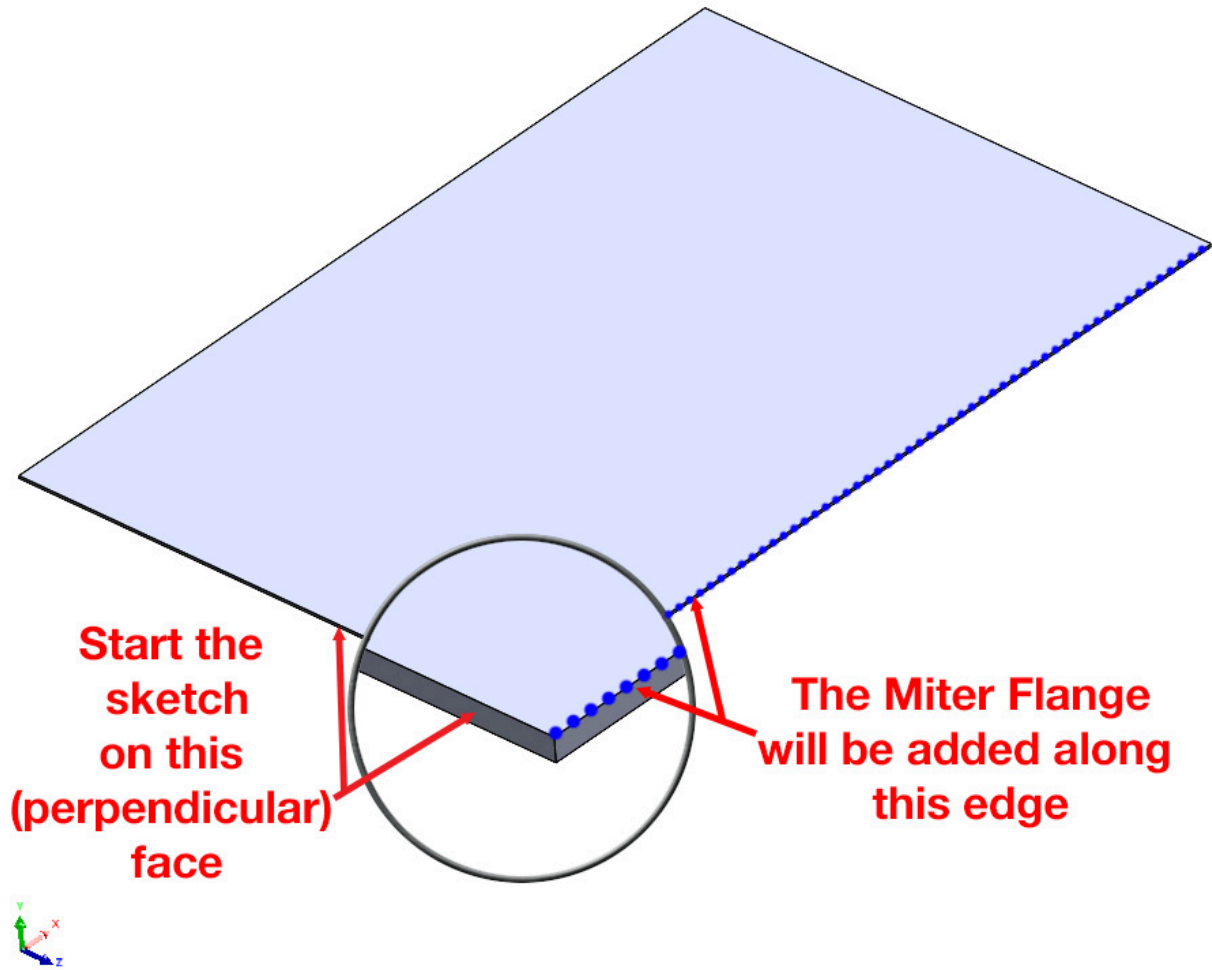

Figure 3.9: The Miter Flange sketch needs to be on a face perpendicular to the edge where the flange will be located
3. The sketch *needs to be perpendicular to the edge* where the **Miter Flange** will be made. Therefore, zoom in on the **Base Flange**, select one of the small end faces, as illustrated in *Figure 3.9*, and start a sketch: